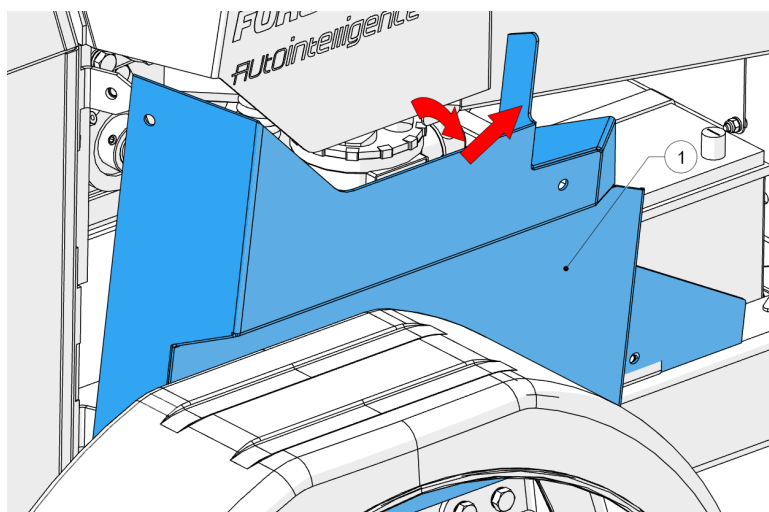

Figure 49 - Remove panel
4. Remove the panel (1, Figure 49).